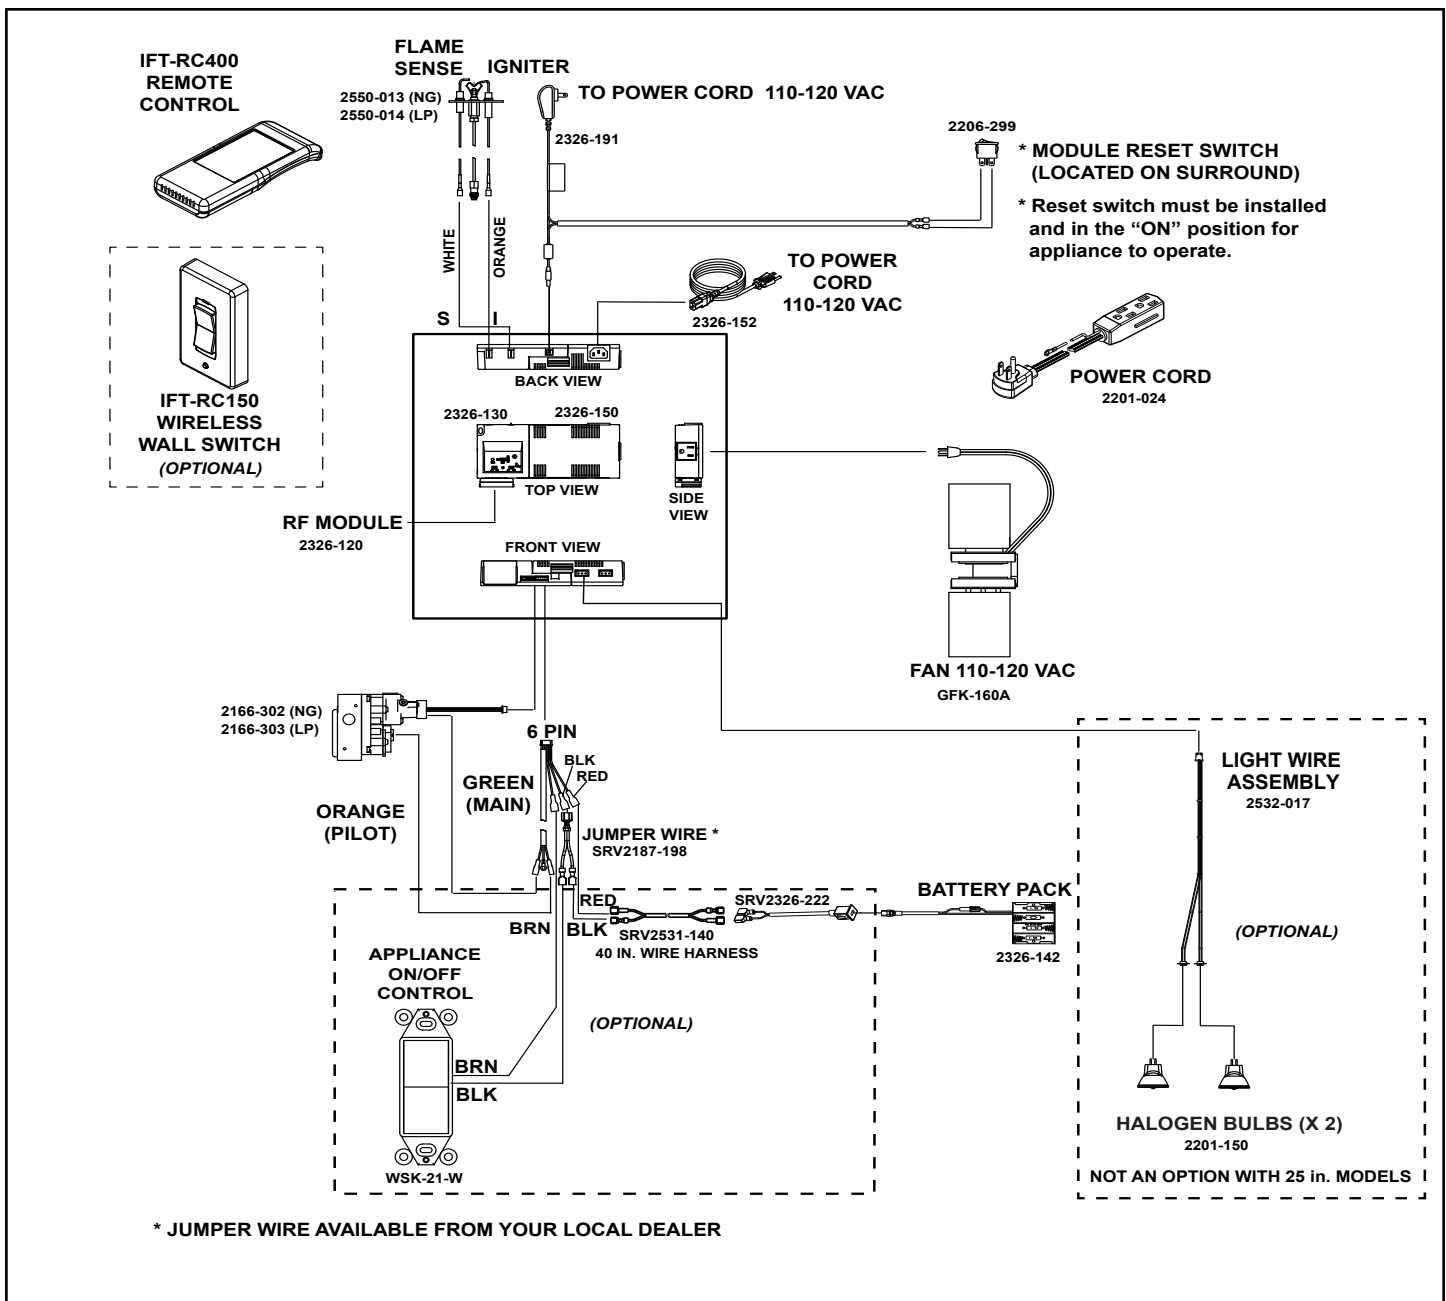

Figure 6.2 IntelliFire Touch Wiring Diagram
- Refer to Figure 6.2, IntelliFire Touch (IPI) Wiring Diagram.
- Service / replace fan. Figure 6.2 shows a wiring diagram.
- Service / install fan. Figure 6.2 shows a wiring diagram.